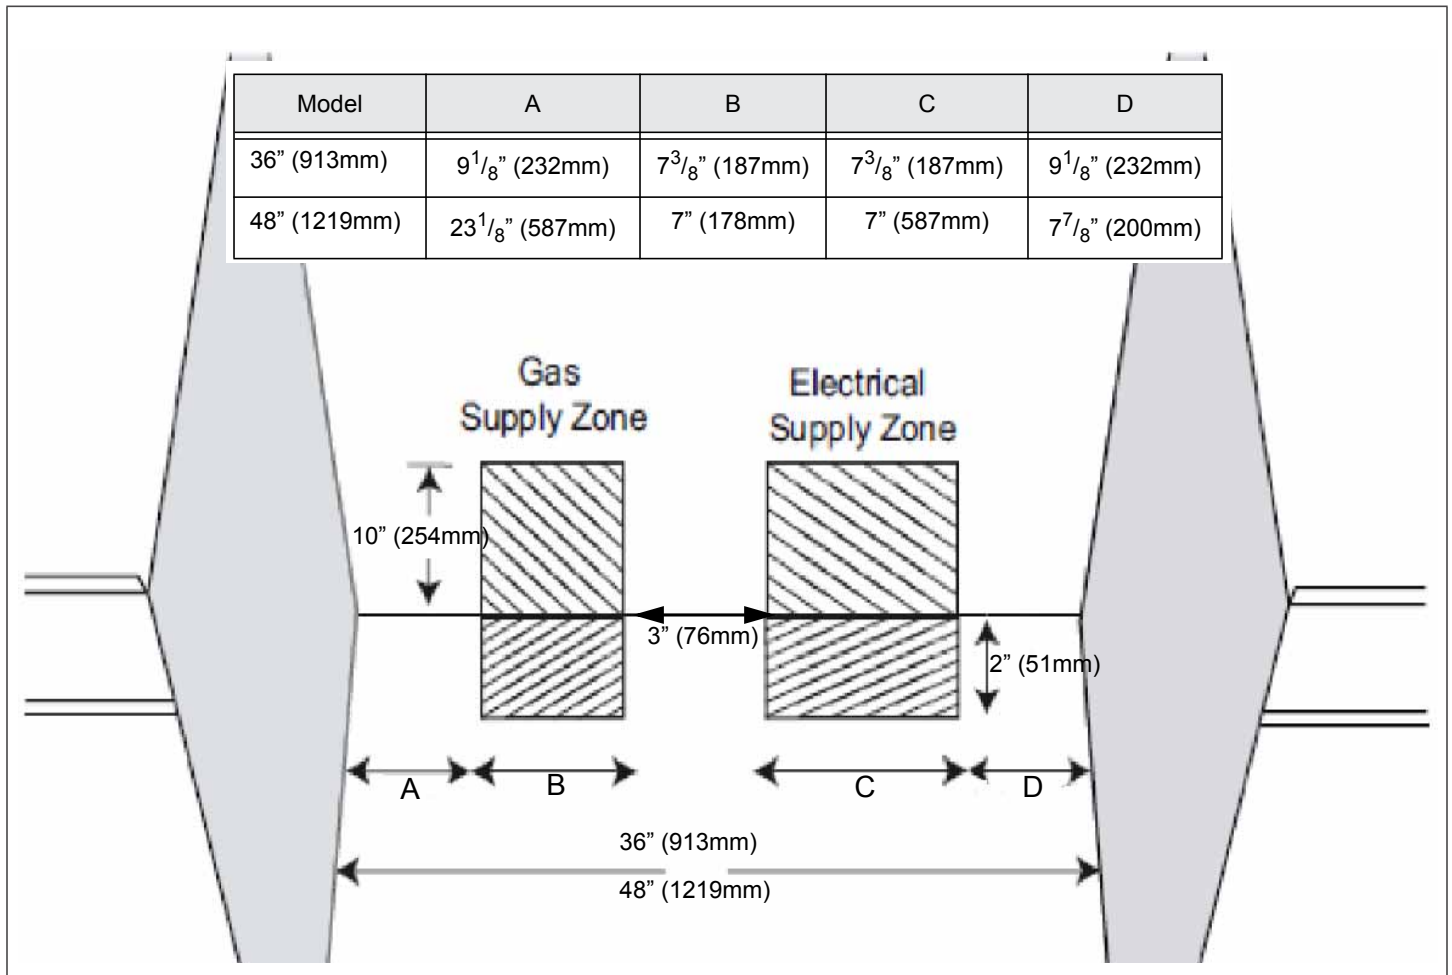

Figure 3: Gas & Electrical Supply Locations
- The gas and electrical supply should be within the zones shown in Figure 3 on page 7.